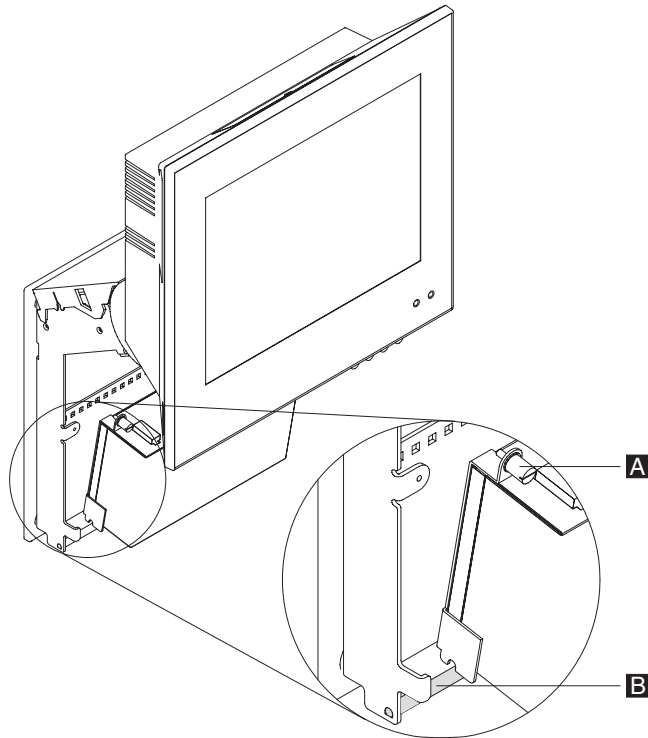

Figure 121. Removing the power supply when wall mounted
4. Loosen the two power supply captive thumb screws **A** as shown in Figure 121 on page 142. The power supply has a mechanical stop that prevents it from falling out.
Note: When replacing the power supply, make sure that the U-shaped ends, of the power supply bracket, are set on the metal bar **B** in Figure 121.
3. Unplug the power connector cable and the ac power cord from the power supply. Figure 121 on page 142 shows the location of the power supply.